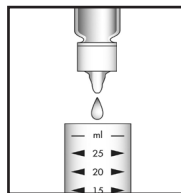

Figure 2
2. Add **10 drops** of S-6902 buffer solution to the reaction tube (fig. 2).